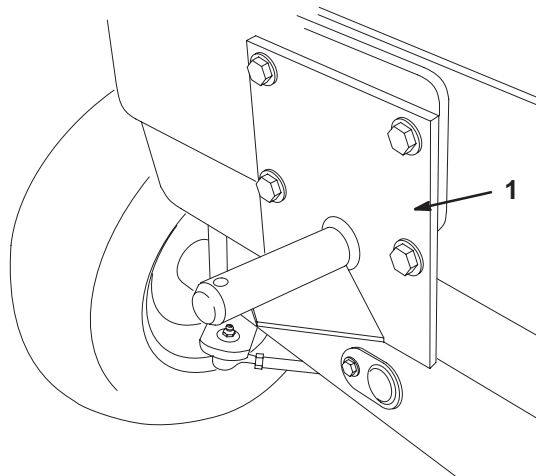

Figure 10
11. Position rear hopper bracket on rear frame, as shown in figure 10, aligning (2) bottom mounting holes with holes in frame. Using bracket as a guide, locate, mark and drill the remaining (2) 9/16" dia. holes in rear frame.
12. Mount top of rear hopper bracket to frame using (2) 1/2-13 x 1-1/4" lg. capscrews, mounting strap and (2) 1/2 – 13 locknuts (Fig. 10). Strap to be positioned between frame and bracket.